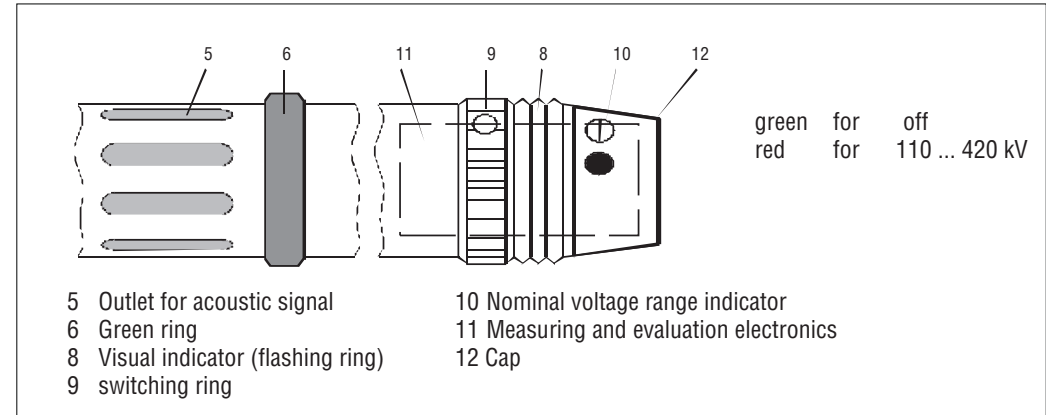

Fig 5: operating head with indicator
- 5.1 If you turn the yellow knurled switching ring at the operating head, the voltage detector is switched on (see Fig. 5).
- 6.1 Untighten the axial flat headed screw in the cap (Fig. 5) and remove the cap.